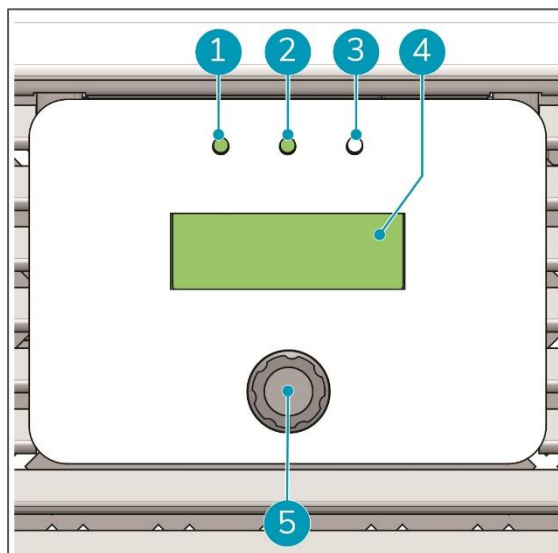

Figure 10
- LED indicators (Figure 10, pos. 1, 2 and 3);
- display (Figure 10, pos. 4);
- operating knob (Figure 10, pos. 5).
- The left green LED indicator (Figure 10, pos. 1) on the control panel is lit.
12. Press the operating knob (Figure 10, pos. 5) to activate the display.
- The center green LED indicator (Figure 10, pos. 2) on the control panel is lit. This indicates that the ICon Pro is in operations mode.
When an error occurs, the ICon Pro sounds an alarm and the red LED indicator (Figure 10, pos. 3) on the right side of the control panel is lit.